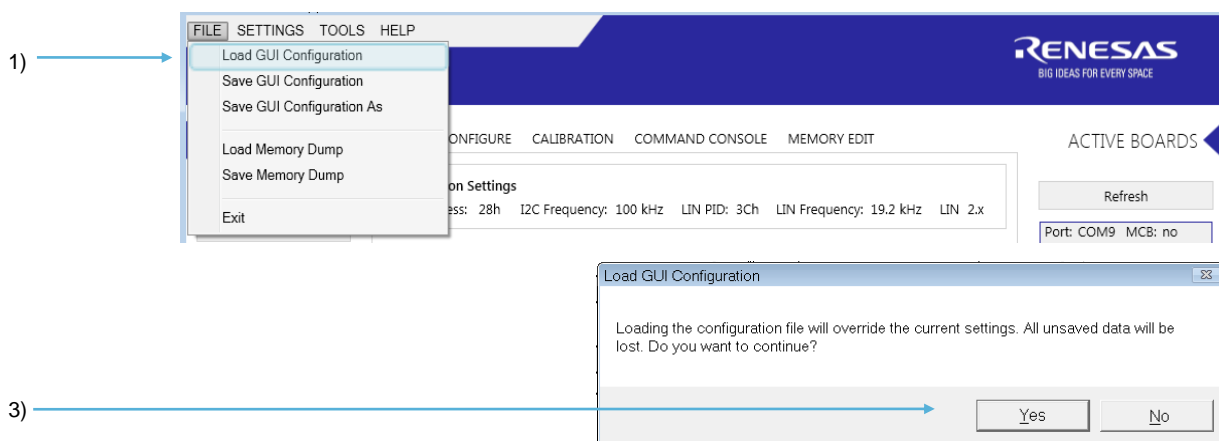

Figure 14. Loading the GUI Configuration File
1. Click FILE > “Load GUI Configuration” (see Figure 14)